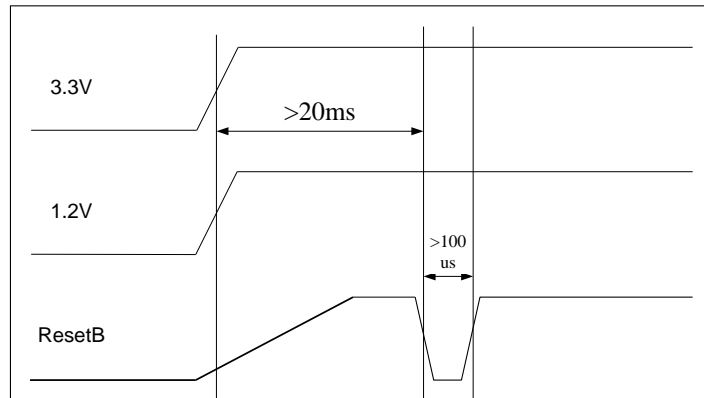

Figure 3: Power-on Reset Function's Sequence external global reset
2. RB signal is generate by system global reset. In this case, the power supply should be valid and stable for at least 20ms before the reset signal is valid. The pulse width of valid reset signal should be at least 100us. Otherwise, the chip can't work well. The timing is shown in Figure 3.